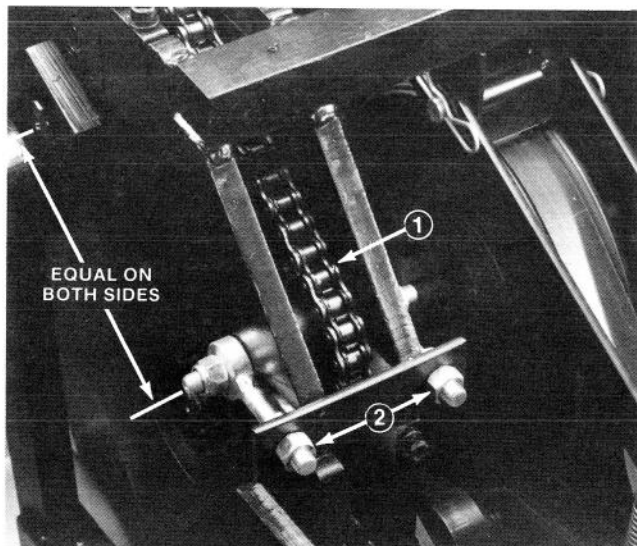

Figure 45
1. Depress chain in span between the idler sprocket and upper crank arm sprocket. Applying 8-12 lbs. of force on designated area, chain should deflect .25 inch \pm .03 (Fig. 45).
2. Tighten or loosen each eyebolt nut to increase or decrease chain tension. Make sure each eyebolt is adjusted equally (Fig. 45).
4. To make sure eyebolts are adjusted equally, measure distance from center of idler shaft to center of upper crank shaft on both sides of shaft (Fig. 45).